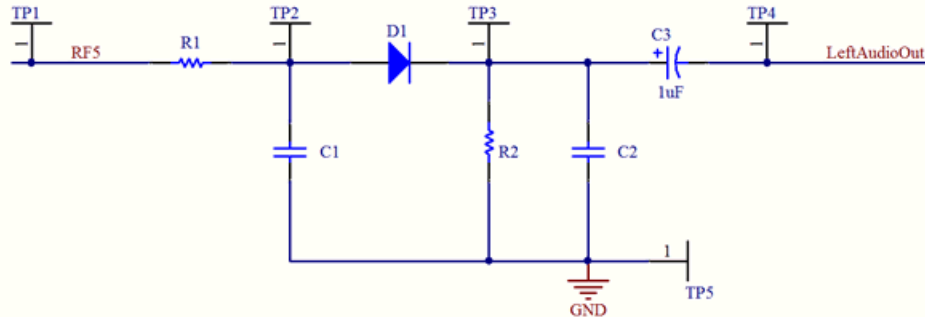

Figure 1: Slope detector circuit.
- * Design the slope detector circuit shown in Figure 1. The slope detector is nothing but a frequency-to-voltage converter followed by an AM envelope detector. The design equation for the frequency-to-amplitude converter is given by: